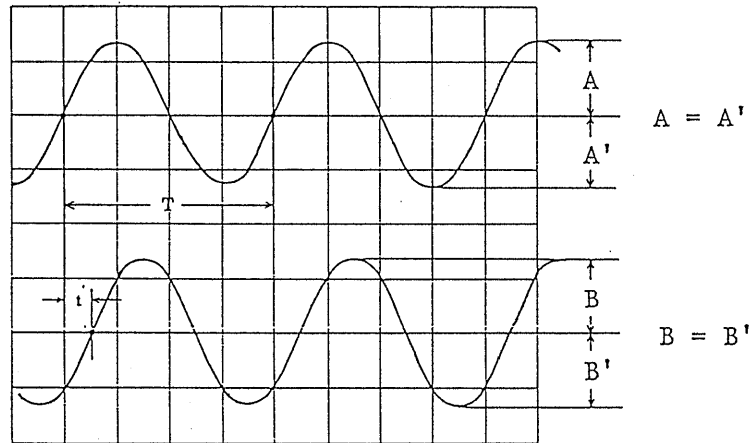

Figure 5-9
Set the MODE switch at the DUAL position (10), and connect to CH1 the signal to be used for reference and to CH2 the signal to be measured. Adjust the oscilloscope so that it displays signals as shown in Fig. 5-9.